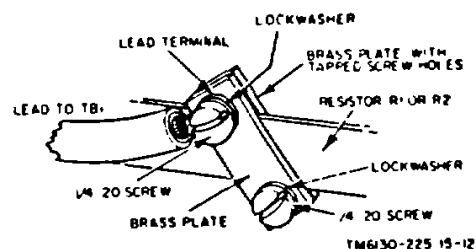

Figure 2. Typical resistor tap connection.
b. Each tap is made by connecting two flat straps across the surface of the resistor, and connecting a cable from the tapped point to the appropriate terminal on terminal board TB1. A typical arrangement of the parts involved for connecting a tap is shown in figure 2.